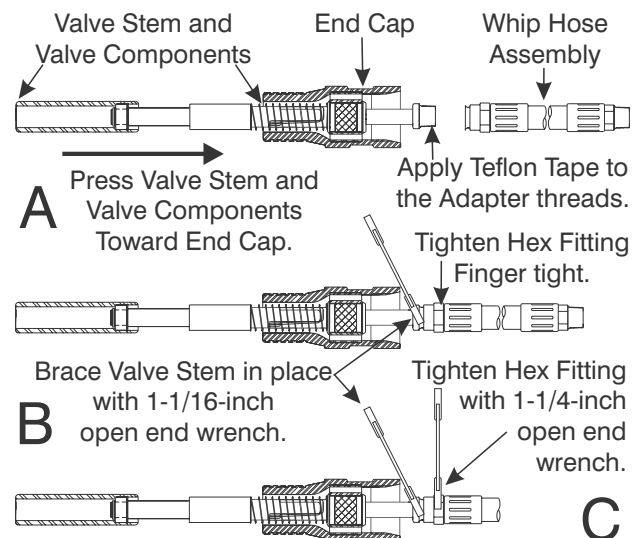

Figure 9-37. Hold Valve Stem in place.
1. Collect on a clean flat work bench: the End Cap (8) with the Valve components assembled per section 9.11.3, the Whip Hose (10), and the Quick Disconnect Fitting (11) and Gasket.
2. By hand, press the Valve end of the Valve Stem (5) toward the End Cap until the Thread Adapter (3) is accessible as shown in Figure 9-37.
3. Fit an 1-1/16-inch open-end wrench behind the exposed Thread Adapter. Brace the wrench against the edge of the End Cap and pry the stem outward with enough force to prevent the Valve Stem from pulling back into the End Cap as shown in Figures 9-37 and 9-38.